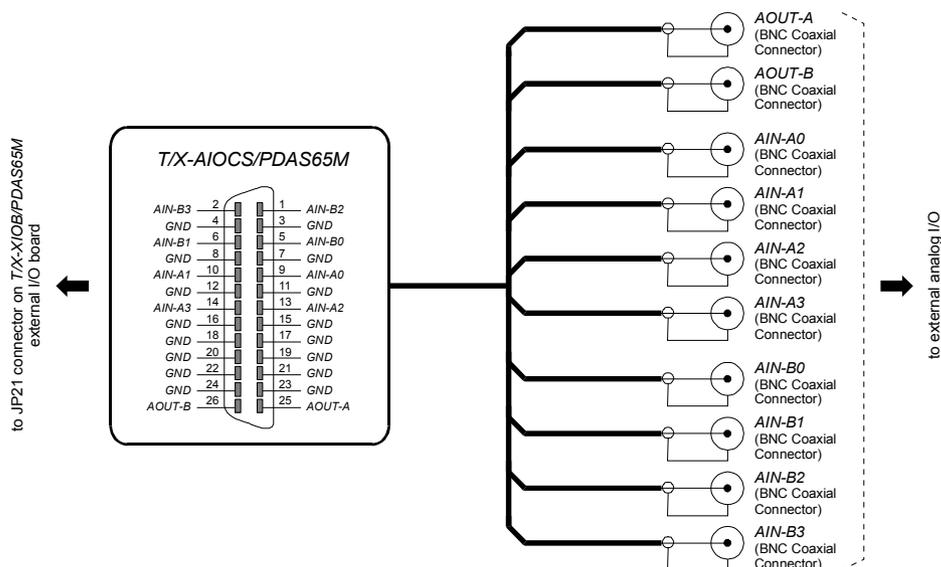

Fig.C-6. Schematic diagram of *T/X-AIOCS/PDAS65M* external cable set.
*T/X-AIOCS/PDAS65M* external cable set converts analog I/O signals from 26-pin JP21 connector of *T/X-XIOB/PDAS65M* external I/O board for *T/PDAS-AD8/12D/65M-DA2/12D/65M* DCM into ten industry standard female BNC connectors (fig.C-6).